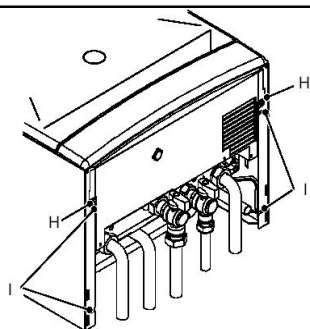

Fig. 5.34
2. Remove the screws H and loosen the screws I. (Fig. 5.34).